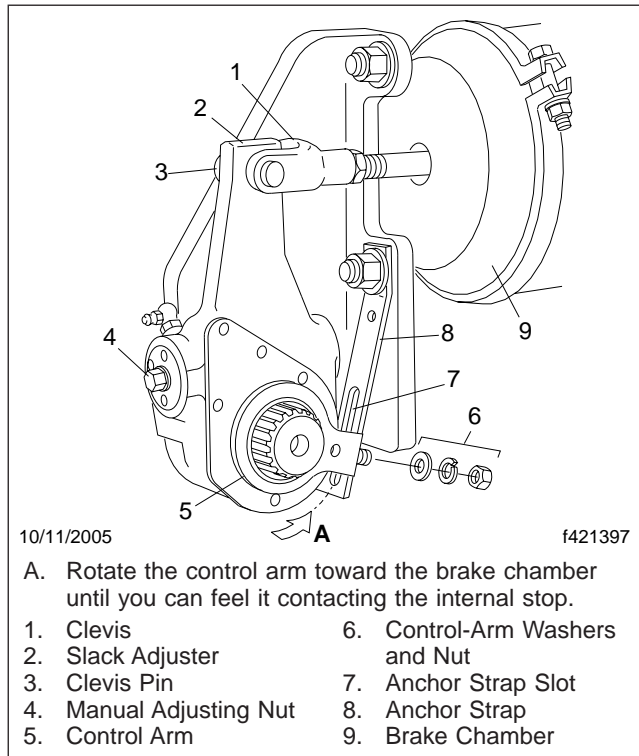

Fig. 11.14, Haldex Automatic Slack Adjuster
- 23.3 *Haldex Slack Adjusters:* Inspect each slack adjuster and anchor strap for damage. See **Fig. 11.14**. Have any damaged components replaced.